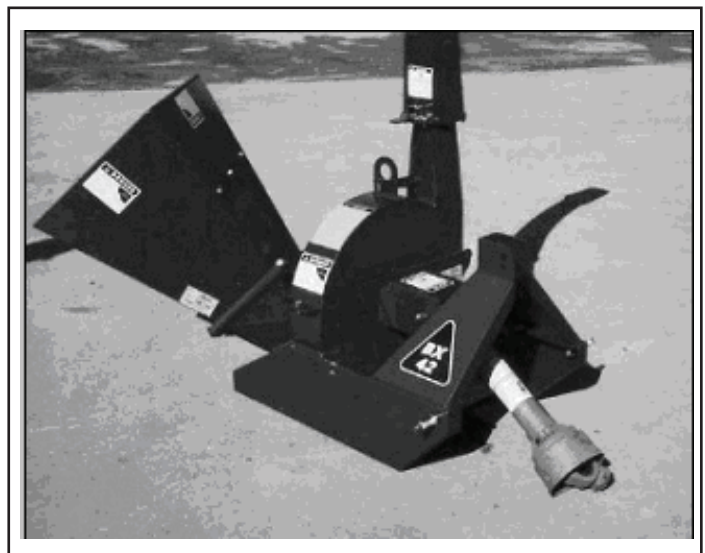

Fig. 9
12. Depress handle on discharge chute latch and turn assembly to its desired position. Turn until latch seats in its indent. (Fig. 9)